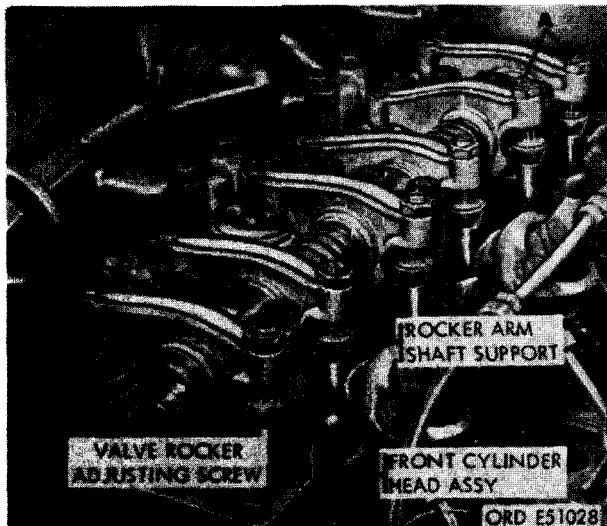

FIGURE 180. REMOVING OR INSTALLING CAP SCREWS SECURING ROCKER ARM SHAFT SUPPORTS.
- (2) Figure 180. (A) Loosen six valve rocker adjusting screw lock nuts and alternately loosen valve rocker adjusting screws to relieve valve spring tension.
c. Installation. Refer to figures 180 through 182 and reverse the sequence of illustrations and instructions to install the valve rocker arm
- (2) Remove front set of rocker arms following instructions which accompany figures 180 and 181.
- (1) Refer to figures 180 and 181 and reverse the sequence of illustrations and instructions to install the front set of rocker arms. Do not tighten valve rocker arm adjusting screw lock nuts until valve clearance has been adjusted.
- (2) Remove the front set of rocker arms following instructions in figures 180 and 181.
- (2) Refer to figures 180 and 181 and reverse the sequence of illustrations and instructions to install the front set of rocker arms.